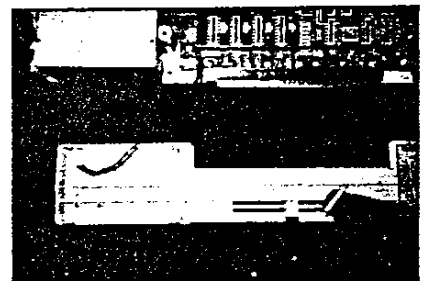

Fig. 3-8. LED Harness Installation
3.4.1 Place the front bezel on the work surface, in front of the unit, and install the LED harnesses. The drive LED harness is an in-line connector and the power LED connects at the PCB, J15. See Fig. 3-8.